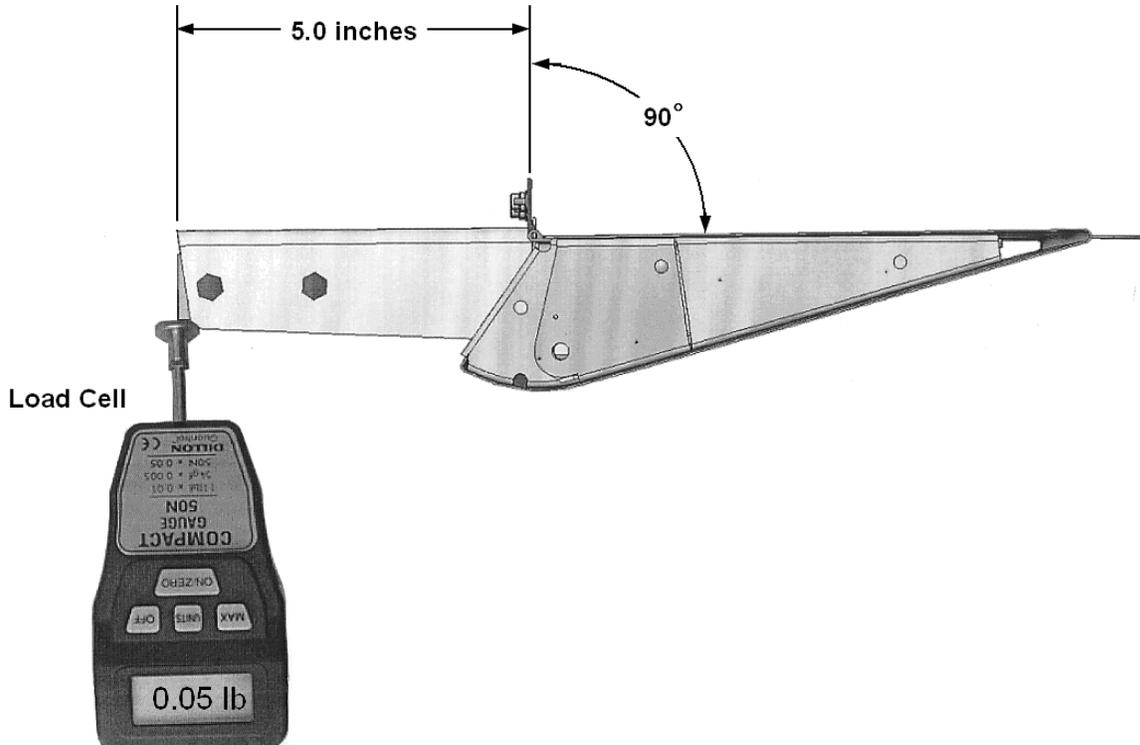

Figure 51-56 Aileron Mass Balancing Setup
6. The weight of the mass balance is engineered to be heavy on the balance arm, nose heavy (NH).
7. Locate a load cell (such as a Dillon/Quality Plus, Inc. Force Gauge CFG-50N) under one of the mass balance, 5.0 in from the hinge line. The load recorded on the load cell to bring the lower surface of the aileron horizontal must be between 0 and 0.05 lb. For details, see Figure 51-56.